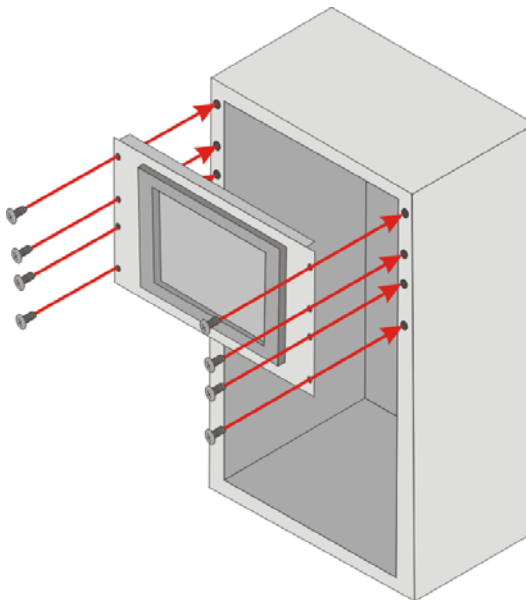

Figure 3-20: Install into a Rack/Cabinet
(Figure 3-20).
Step 7: Once the panel PC with the attached rack/cabinet bracket has been properly inserted into the rack or cabinet, secure the front of the rack/cabinet bracket to the front of the rack or cabinet (**Figure 3-20**).